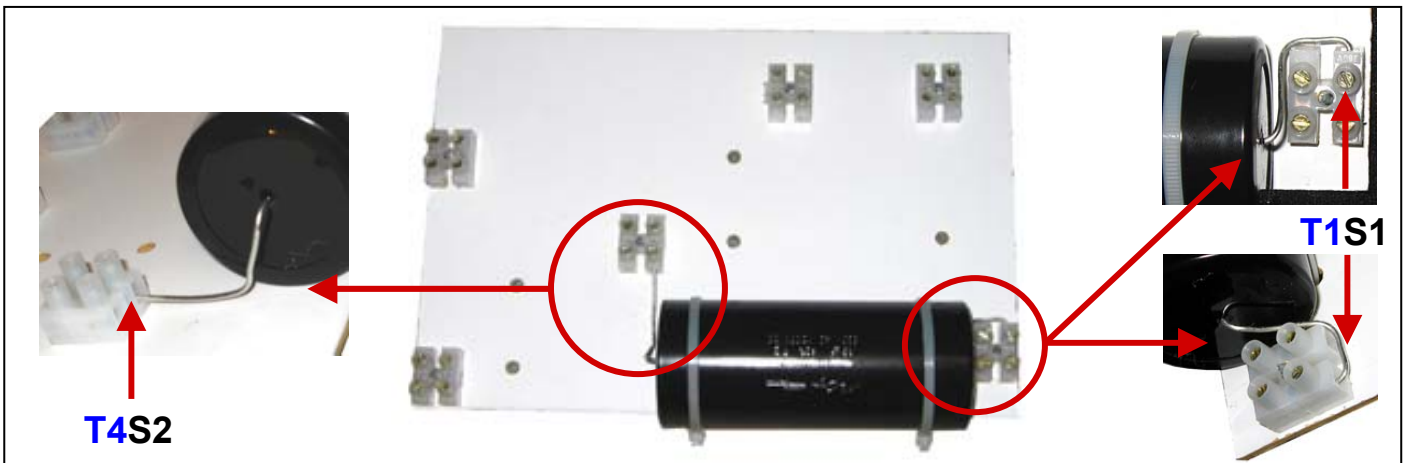

Fig. 6: Fasten 10uF Silver/Oil capacitor to board at **c1** and **c2** with Tie Wraps and insert wires to T-Blocks
8. Using (0.142" W x 8" L) Tie Wraps strap 10uF Silver/Oil capacitor to board at locations **c1** and **c2** (Fig. 6)
9. Insert wires to their respective T-Blocks **T1S1** and **T4S2** (Fig. 6)